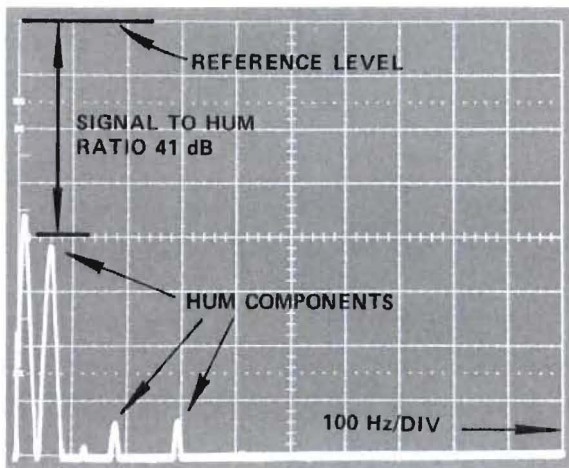

Figure 37 Example of S/N and Hum Measurements
5. The difference in amplitude (Figure 37) between the signal reference level and the noise floor, less a correction from the measured bandwidth (3 kHz) to the desired bandwidth (15 kHz), is the signal to noise ratio. The correction factor to be subtracted is 7 dB. Example: S/N equals VS minus VN minus Correction Factor; S/N equals 0 dB - 72 dB - (-7 dB) = -65 dB (S/N).
- 2. Signal to hum ratio can be determined by measuring the amplitude difference between the Signal Reference Level (step 3) and any 60 or 120 Hz hum components. An example is shown in Figure 37.